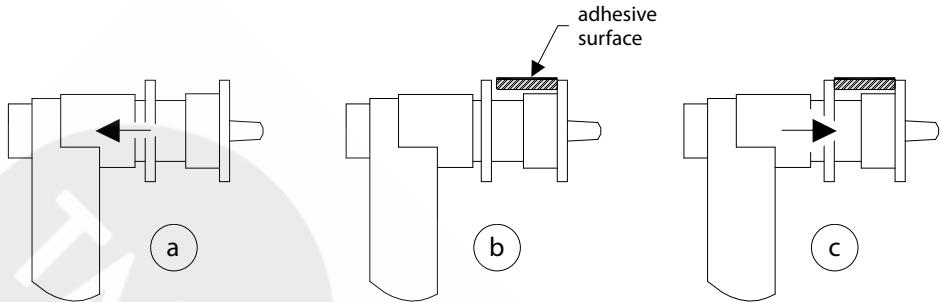

Fig. F3.12 Application of adhesive weights on the Distance/Diameter
- Apply the weight shown on the left display (internal weight) on the Distance/Diameter sensor as seen in figure F3.12;